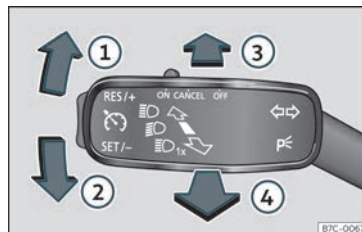

Fig. 89 Turn signal and main beam lever.
- From the base position, press the turn signal and main beam headlights lever forwards >>> **Fig. 89**  When the lamp  is displayed on the instrument panel display, the main beam assist is switched on.
- **OR:** while the main beam is on, pull the turn signal light and main beam headlights lever forwards >>> **Fig. 89** .